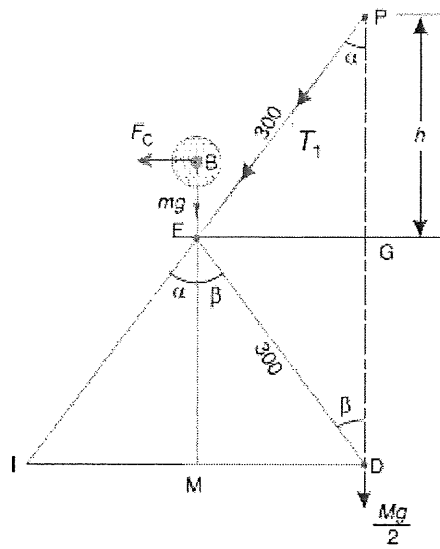

Figure 5
- b) A governor of the Proell type has each arm 300 mm long shown in Figure 5. The pivots of the upper and lower arms are pivot on the axis of the governor. The central load acting on the sleeve has a mass of 100 kg and the each rotating ball has a mass of 10 kg. When the governor sleeve is in mid-position, the extension link of the lower arm is vertical and the radius of the path of rotation of the masses is 180 mm. the vertical height of the governor is 200 mm. If the governor speed is 160 rev/min. when in mid-position, **solve**